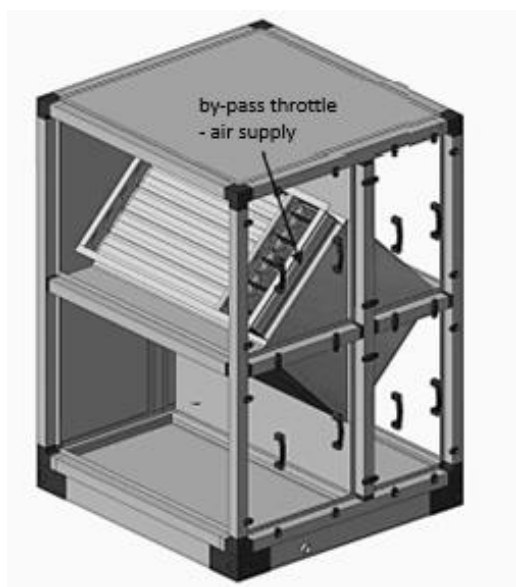

Fig. 28 VEBAR-CS throttle by-pass location
- Integrated by-pass – on supply air with full airflow cut off through exchanger (Fig. 28)